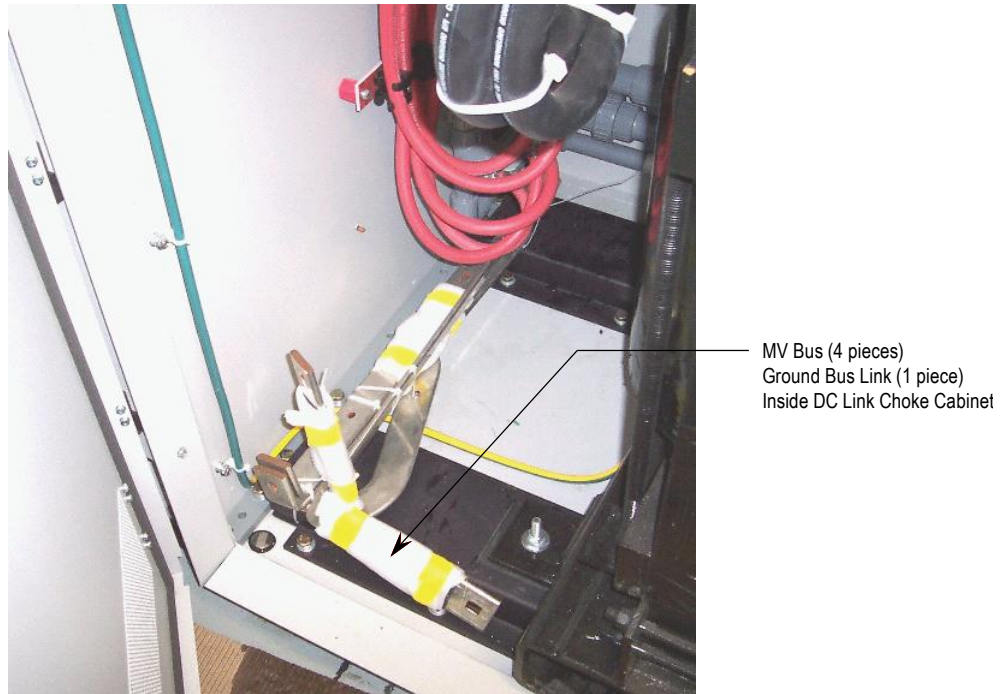

Figure 2.9 – DC Link Choke Cabinet
- Locate the four (4) Power Bus pieces of the splice kit in DC Link Choke cabinet and remove shipping wrapping. See Figure 2.9.
- Connect Power Bus M+, L+, M-, L- on the red insulators in the DC Link Choke cabinet and mating bus pieces in the capacitor cabinet. Hardware required is pre-attached to bus connections, cabling, and insulators in the cabinet where the power bus splice kit will attach. Remove and attach as shown in Figures 2.9 to 2.13.